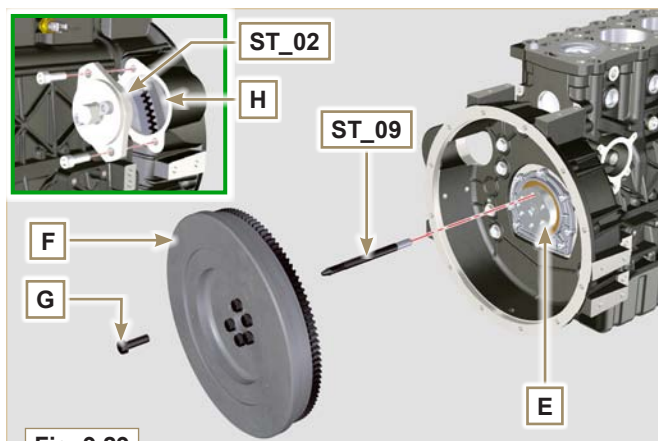

Fig. 9.29
- 4 - Mount tool **ST_02** in the seat of starter motor **H** (Fig. 9.29) and fix it with two motor fixing screws.